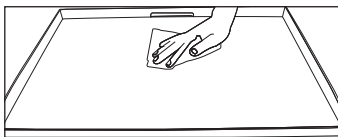

Fig. 2
STEP 01 Wipe any debris off griddle top. (See Fig. 2)